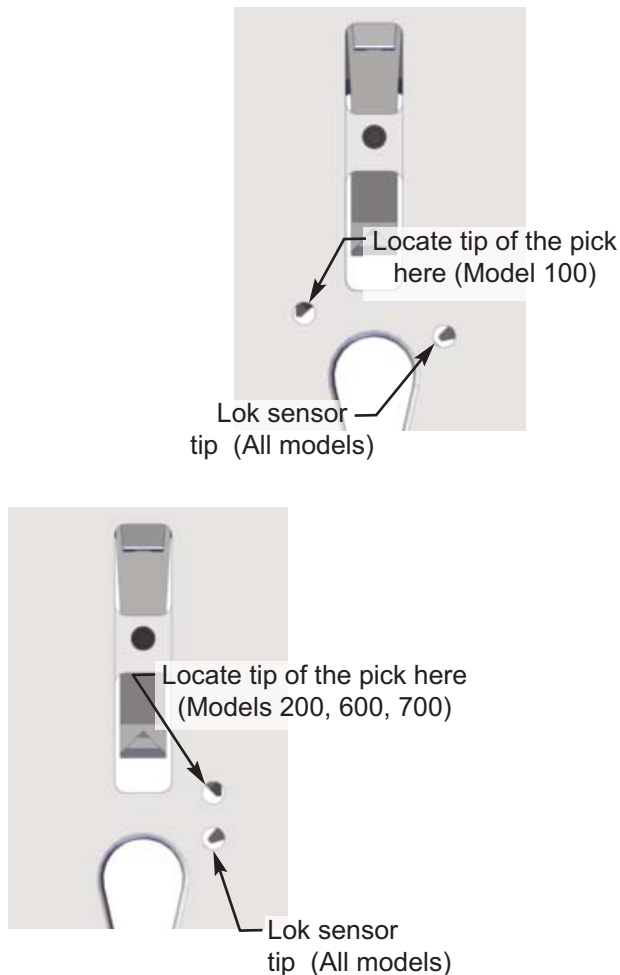

Figure 3.8
The lok sensor stop is a bushing which limits the travel of the sensor lever when no closures are present. The bushing is secured under an M5 socket head screw. The bushing (sensor lever stop) can be adjusted to set the lok sensor stop position. When no closures are present, the lok sensor tip should be centered below the inspection hole in the top track (Figure 3.8).
K. PICK / CLOSURE LOCATION: Figure 3.8
4. The tip of the pick should be visible in half of the inspection hole as shown (Figure 3.8). Reposition the pick if needed as follows:
7. Slide the motor assembly until the pick is in the proper position when viewed through the inspection hole (Figure 3.8).